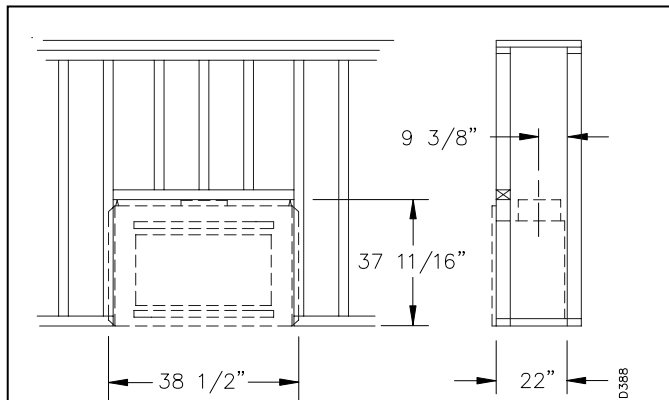

Figure 1 FRAMING DIMENSION
1. The location must allow for proper clearances (see figures 1 & 2).
STEP 1: Frame the opening for the fireplace using the dimensions shown in figure 1 or 2.